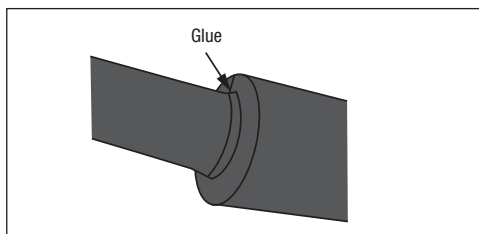

Figure 12. Completed Heat-shrink Tube Application
10. Once the heat-shrink tube has shrunk completely the glue from inside of it should be visible on the ends. See *Figure 12*.